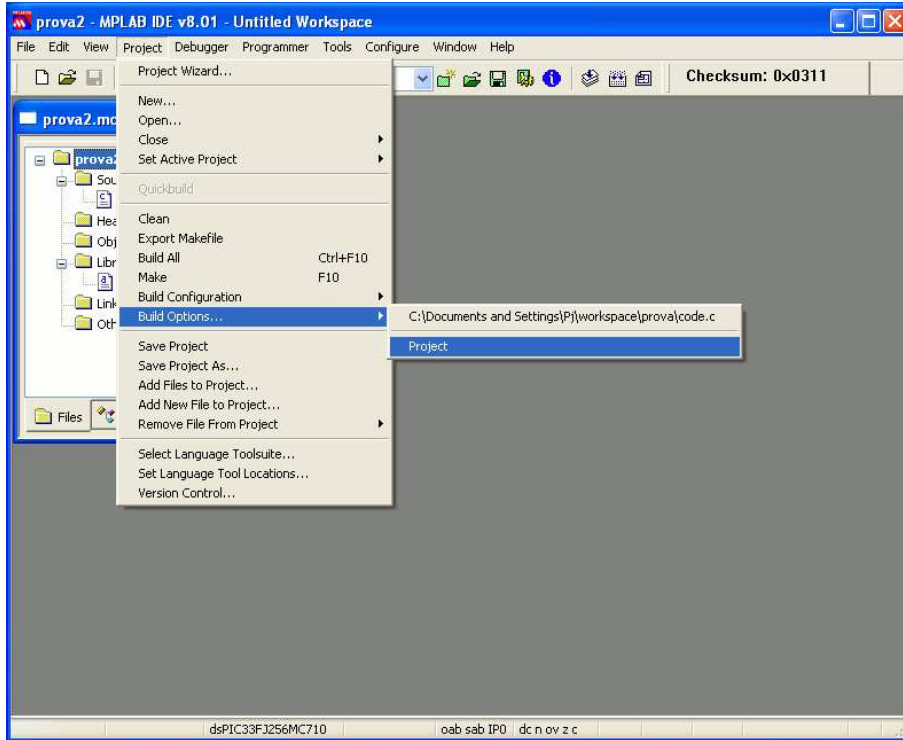
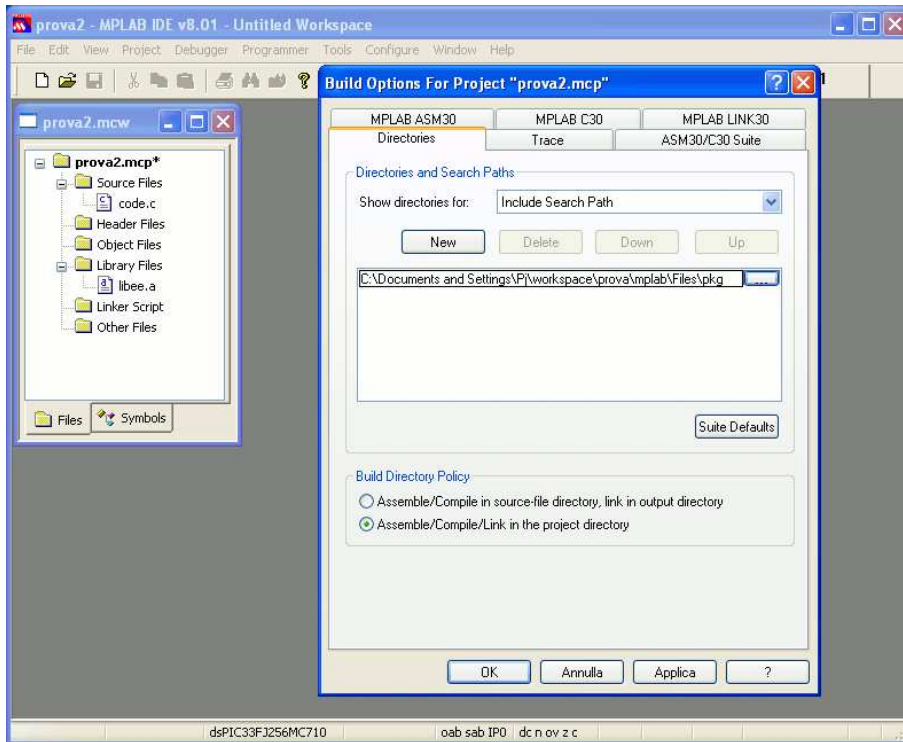
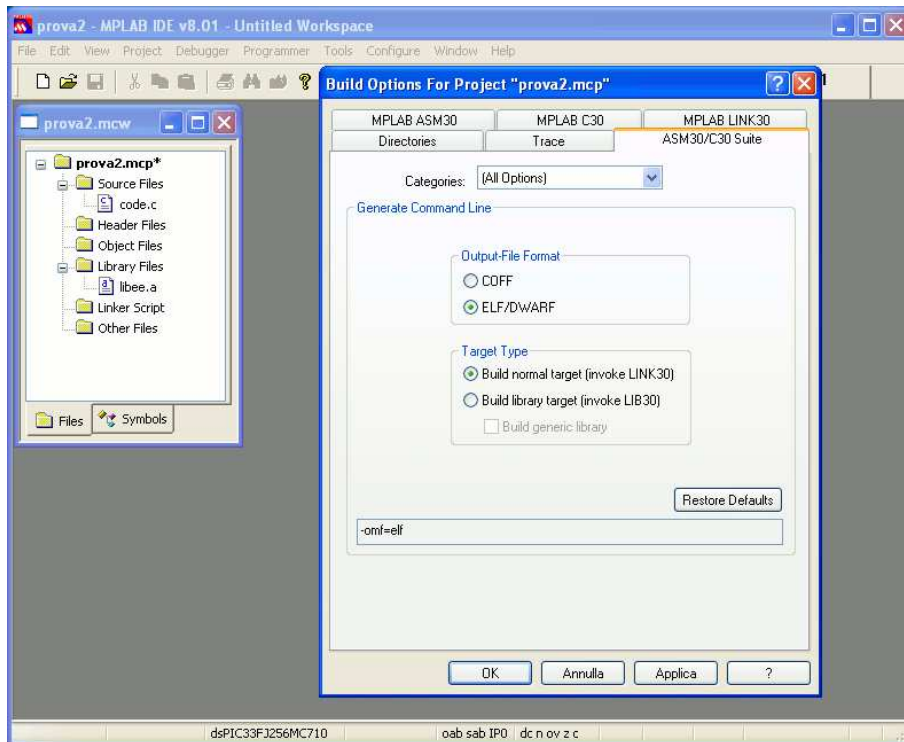

Figure 3.4: Set the project build options.
Figure 3.5: Set the additional Include path.
Figure 3.6: Set the output file format.
- d) After that, you need to modify the Project Build Options by adding an include directory and setting the ELF format. To do that, select "Build Options..." / "Project" under the "Project" menu (see Figure 3.4). Then, add the `destdir\Files\pkg` as an include directory path (see Figure 3.5), and select ELF as output file format (see Figure 3.6).